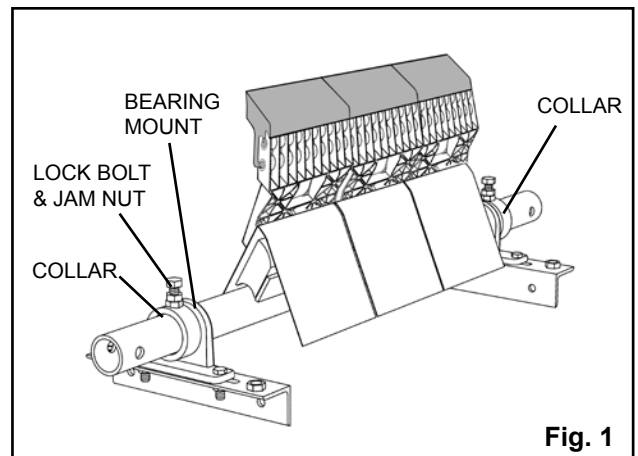

Fig. 1
- a. With the pole rotated up so that all the tips contact the head pulley, slide a collar on each end of the pole. Position the collars tight against the bearing mounts and tighten the lock bolt and jam nut on each collar (Fig. 1).